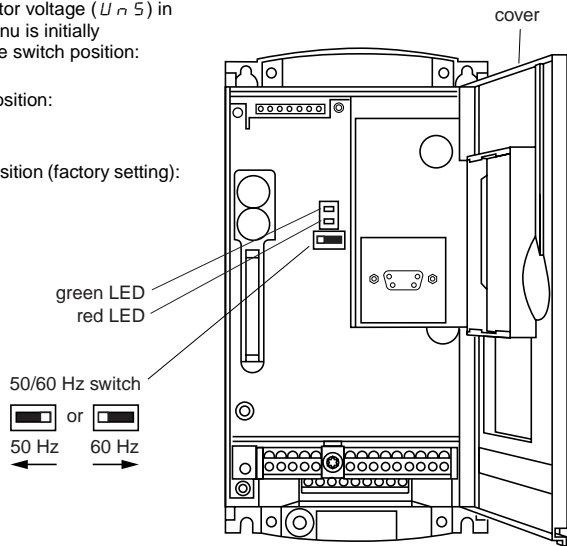

Figure 2: Location of 50/60 Hz Switch
Figure 2 on page 4 shows the location of the 50/60 Hz switch on the drive controller. *Before powering up the drive controller and using the keypad display, you must **set the 50/60 Hz switch** to correspond with the frequency of the incoming AC power.*
1. Make sure that the 50/60 Hz switch is in the correct position, corresponding to the frequency of the incoming AC power, as shown in Figure 2 on page 4.